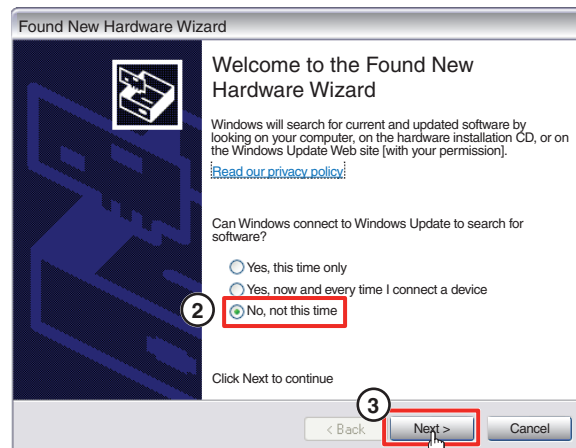

Figure 9. Found New Hardware Wizard Welcome Screen
2. If this is the first time an EDID 101H is connected to the PC, the Found New Hardware Wizard opens (see figure 9).